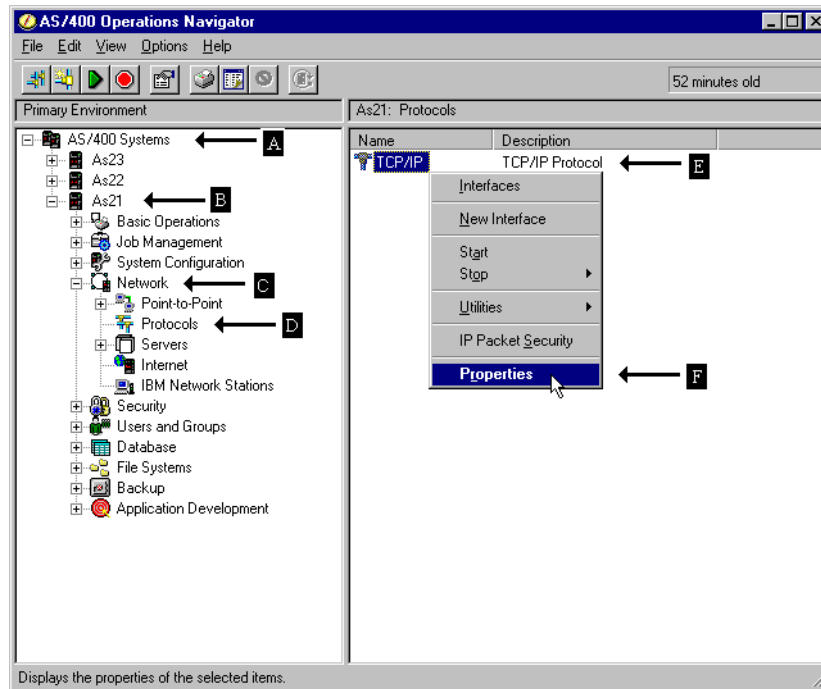

Figure 332. Context menu - Properties
- b. Double-click your **AS/400 Systems** icon (A). It should give you a list of all the AS/400 systems that you can configure.
- c. Double-click the AS/400 system for which you want to configure a domain and host name (B).
- d. Double-click **Networks** (C).
- e. Double-click **Protocols** (D).
- f. Right-click **TCP/IP** to open a context menu (E).
- g. Select **Properties** from the context menu (F). Figure 332 shows the context menu - Properties option.